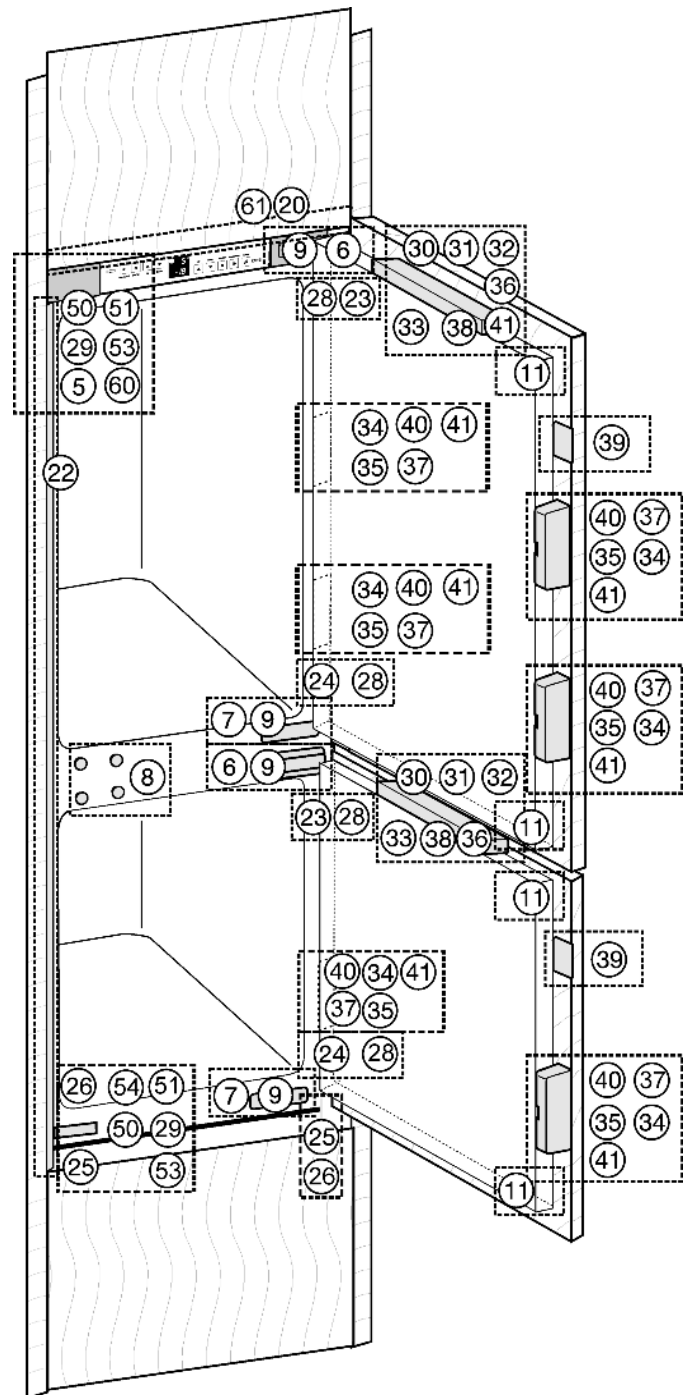
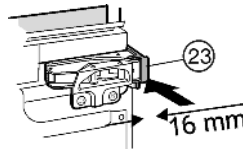
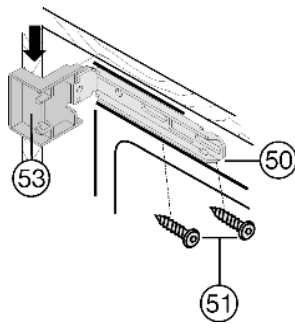
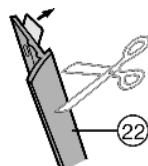

Fig. 9
Fig. 14
Fig. 15
Fig. 16
- ▶ Remove the covers Fig. 9 (5,6,7).
- ▶ Clip a spacer Fig. 14 (23) onto the upper hinges and a spacer Fig. 9 (24) onto the lower hinges.
- ▶ Attach the top and bottom covers Fig. 15 (53) to the mounting brackets Fig. 15 (50).
- ▶ Fasten the mounting brackets Fig. 15 (50) at the top with screws Fig. 15 (55) and at the bottom with screws Fig. 9 (51) such that the bracket can still be moved slightly to the left and to the right.
- ▶ Remove the protective film from the trim Fig. 16 (22). Attach the trim Fig. 16 (22) on the handle side and flush with the front to the projecting edge of the cover Fig. 15 (53) and glue to the sidewall of the appliance.
- ▶ To shorten the trim Fig. 16 (22) at the bottom, if necessary: Position the cover Fig. 9 (54) on the bottom mounting bracket Fig. 15 (50) and shorten the trim Fig. 16 (22) so that it is flush with the upper edge of the cover.
- ▶ Remove the cover Fig. 9 (54) again.
- ▶ Slide the appliance in until it comes into contact with the covers Fig. 15 (53) on the side wall of the unit. Fig. 15
- ▶ Allow for the additional distance (depth of door stop components). Allow the hinges and the covers Fig. 15 (53) to protrude by the additional distance.
- ▶ Adjust the adjustable feet Fig. 9 (25) with the supplied open-ended wrench Fig. 9 (26) to align the appliance vertically.